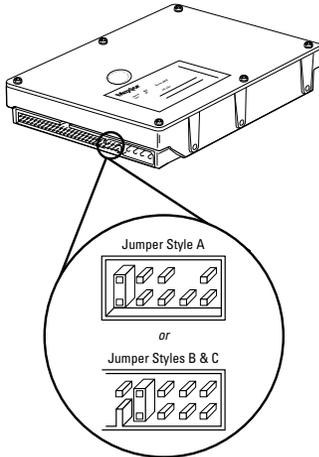

Figure 5. Determine Jumper Style
2. **Locate the jumper block on the back of hard drive.** The jumper block is located to the right of the ATA connector on the hard drive. See Figure 5.
3. **Match the jumper block to jumper style A, B, or C shown in Figure 5.** To determine if you have jumper style C, look for model number D740X or D540X-4K on the label located on the top of the hard drive.